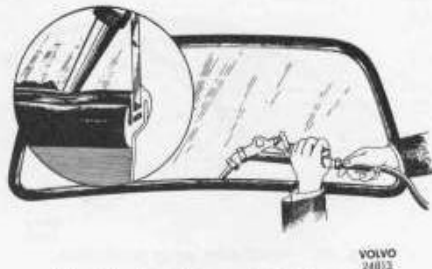

Fig. 42. Applying sealing compound.
5. Seal the joints between the rubber strip-windscreen and rubber strip-sheet metal with sealing compound using an applicator with a flat nylon nozzle as shown in Fig. 42. Make sure that the sealing compound fills the joint well. Scrape off surplus sealing compound and wash the windscreen and sheet metal with white spirit. Clean the windscreen and sheet metal around it with suitable polish.